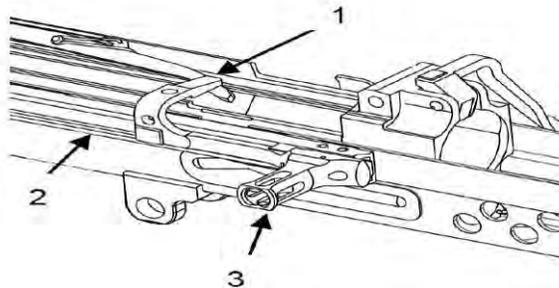

Figure 11. Cocking Handle Channel.
5. Check for bent arm (figure 11, Item 1) on cocking handle assembly (Figure 11, Item 4). If bend replace. Check cocking handle assembly for wear of the feet that travel inside the rails of cocking handle channel (Figure 11, Item 2). Wear is difficult to determine, since the feet are internal to the channel. However, if the channel is not bulged or separated, wear on the feet of the cocking handle can be assumed. If binding occurs while charging the cocking handle, replace cocking handle assembly as required. (WP0023)